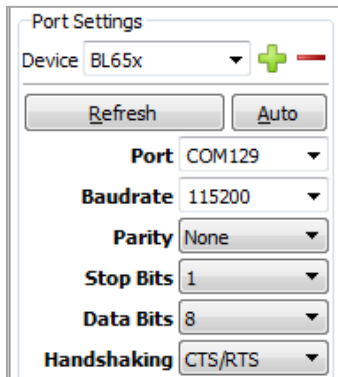

Figure 2: Setting connection parameters
8. From the Config tab in Device drop-down menu, select **BL654** to populate the baud, parity, stop bits, data bits, and handshaking settings. If “BL654” is not selectable, set the configuration as shown in Figure 2.